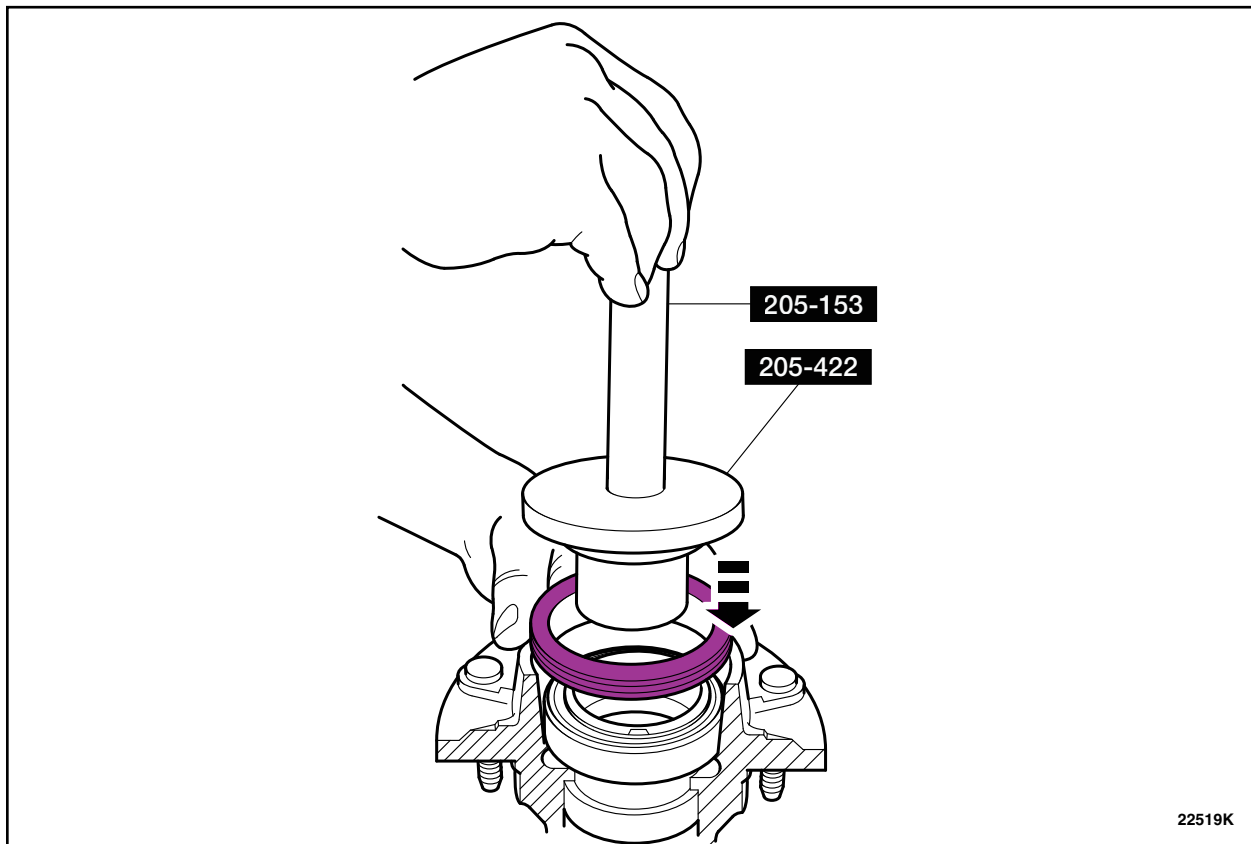

FIGURE 9
9. Using the special tools 205-153 and 205-422 Wheel Hub Oil Seal installer, install the *new* seal in the rear hubs. See Figure 9. Proceed to Step 16.